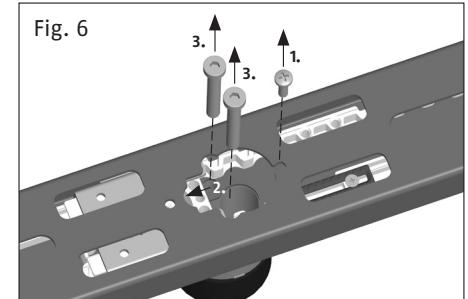

Fig. 6
4. Unscrew the loosened screw 1 (Fig. 6), move the gear-wheel housing in the direction of the arrow. Unscrew the cylinder protection's screws located beneath (Fig. 6).
6. Pull the gear-wheel housing into the old fitting position again (Fig. 6) and fix loosely with screw 1.